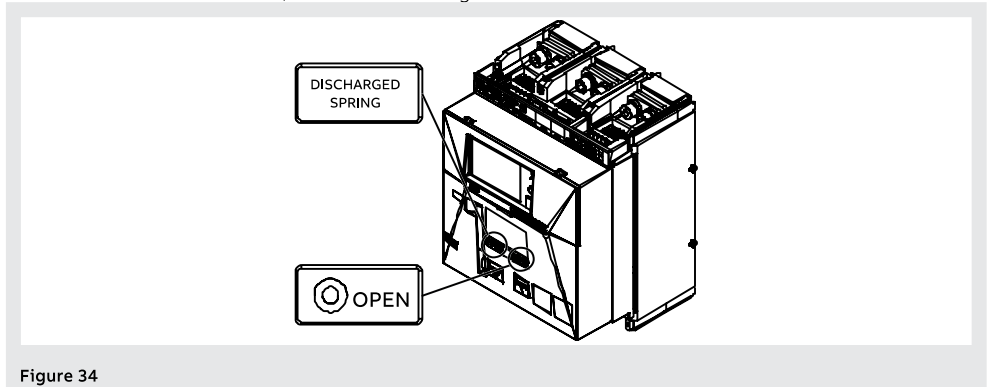

Figure 34
7. Make sure that the circuit-breaker is open. The “O - OPEN” opening/closing indicator must be activated. Check that the springs are discharged. The spring indicator must indicate “DISCHARGED SPRING - white colour”, as illustrated in Figure 34.